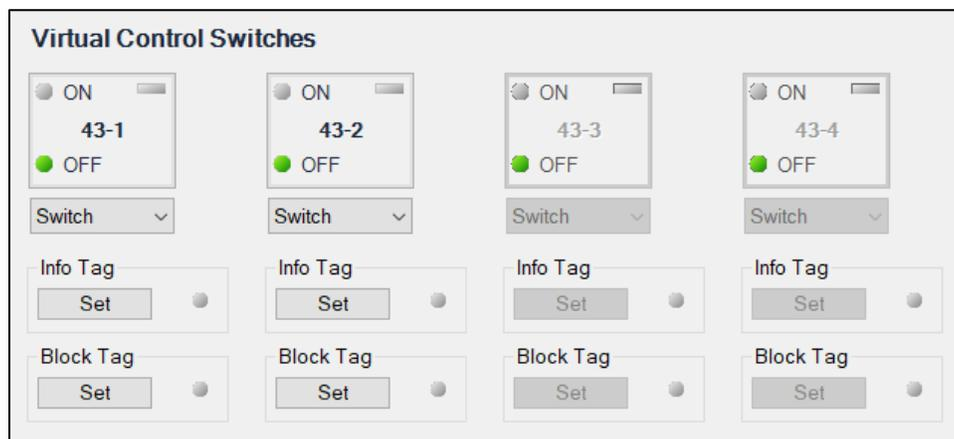

Figure 49-2. BESTCOMSPPlus Virtual Switches Control Screen
- Step 4: Use the Metering Explorer of BESTCOMSPPlus to open the Control, Virtual Switches tree branch (Figure 49-2). Using select-before-operate, perform the following steps to control a virtual switch.
- Step 3: Use the Metering Explorer of BESTCOMSP*Plus* to open the Control, Virtual Switches tree branch (Figure 49-2). Using select-before-operate, perform the following steps to control a virtual switch.